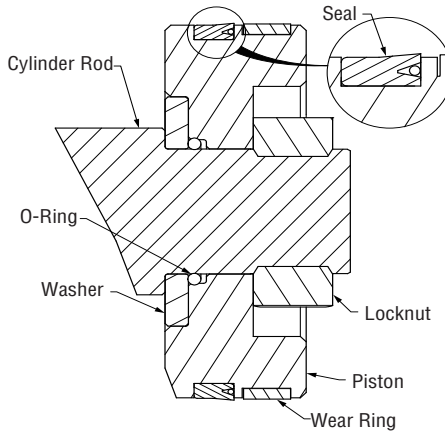

Figure 5-40, Piston Seal
2. Note the direction of the seal on the piston. Improper installation will result in poor performance. The cupped side or O-ring side of the seal should be facing the gland cap. (Figure 5-40)